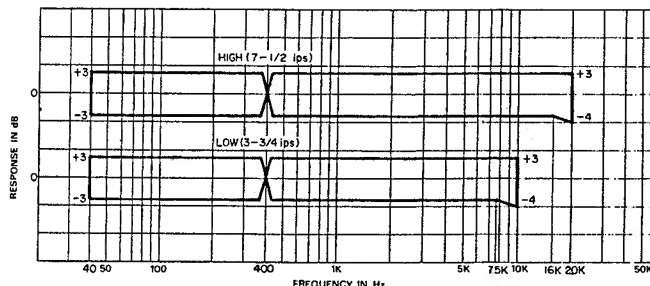

Fig. 8-5 Frequency Response — PLAYBACK —
16. Play Tape and compare reading on VTVM with the response limits given in Fig. 8-5.